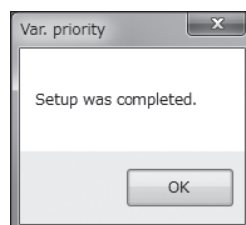

Fig.78
- ⑤ Click "OK" to change the settings to the inputted values, and then click the "OK" button in the displayed message box (Fig. 78) to complete the setting process.